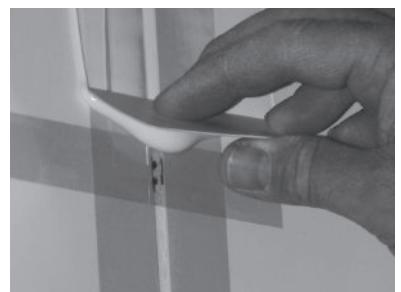

FIGURE 17: APPLYING THE PAINTER TAPE HORIZONTAL IN 3' SECTIONS
4. A good technique is to add a small horizontal piece of painters tape every 3' and ensure that there is enough sealant in the cartridge to complete a full seam. Performing a cartridge change in the middle of a seam application could increase the risk of exceeding the open time of the sealant (Figure 17).